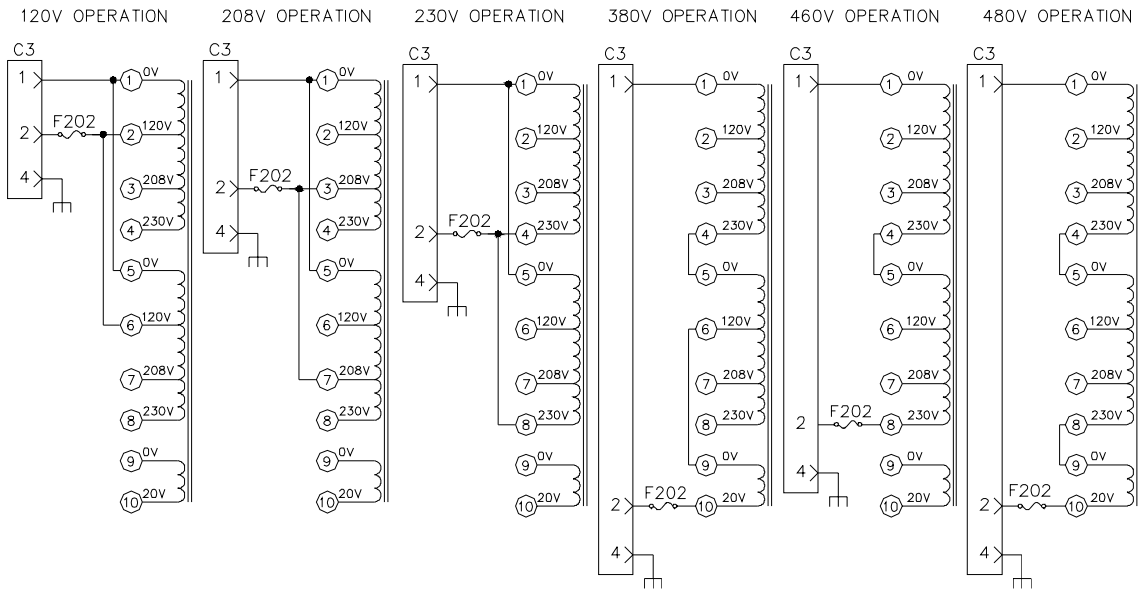

Figure 9 380V/460V/480V Quad Amplifier Transformer T201 Schematic Diagram
The normally open (NO) Main AC Contactor auxiliary contacts must be wired and connected to Connector C1 pins 1 and 2, otherwise the Quad Amplifier will not power up. Connector C1 is located on the top of the Quad Amplifier (See Figure 9)